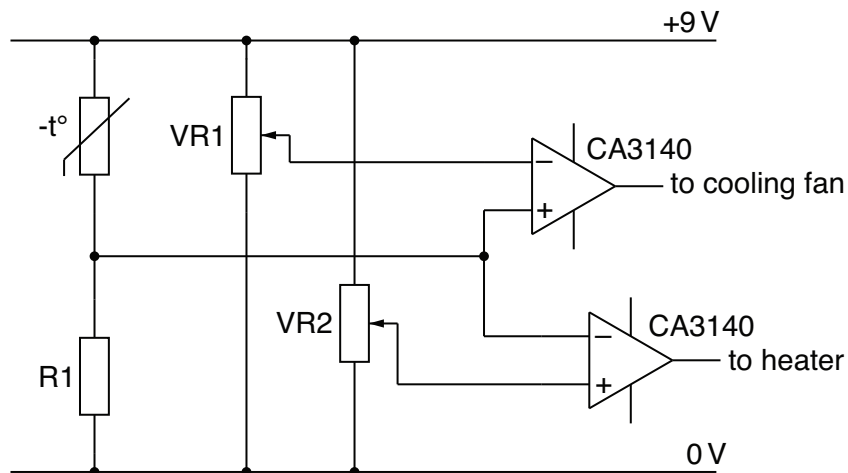
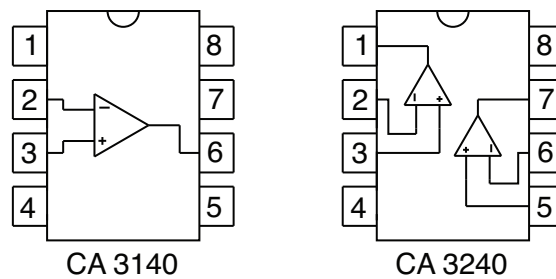

Fig. 10
Fig. 11
- (b) The signal from the thermistor is taken to **two** comparators as shown in Fig. 10.
- (ii) It is found that a double comparator IC is available to replace the single version specified in Fig 10. Two versions of the IC are shown in Fig. 11.
State the reason for using the multi-turn preset resistors as VR1 and VR2 in Fig. 10.